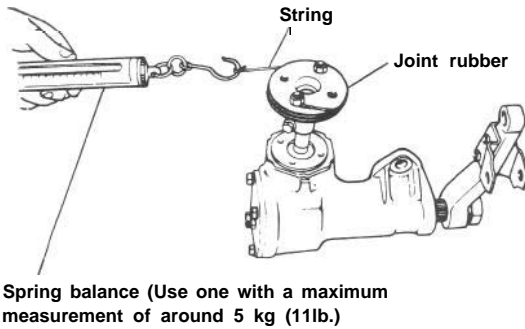

Fig. 18-21
4) If worm shaft starting torque is checked all right, another check should be carried out on worm shaft operating torque in its entire operating range (turning the worm shaft all the way to the right and left) as shown in Fig. 18-21.